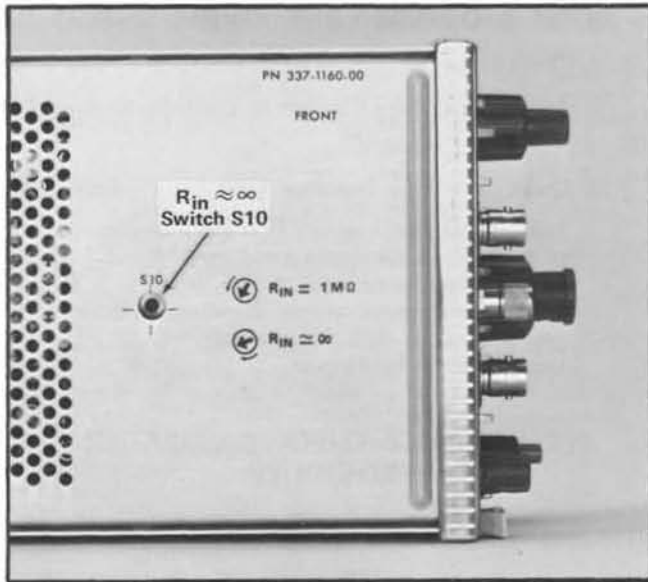

Fig. 5-1. Location of the $R_{in} \approx \infty$ switch S10 on the Attenuator board.
1. Set the Type 7A13 $R_{in} \approx \infty$ switch, S10 (see Fig. 5-1), to the $R_{in} = 1\text{M}\Omega$ (counterclockwise) position.
$R_{in} \approx \infty$ (internal switch, S10, see Fig. 5-1)	$R_{in} = \approx 1\text{M}\Omega$ (see Preliminary Procedure, step 1)